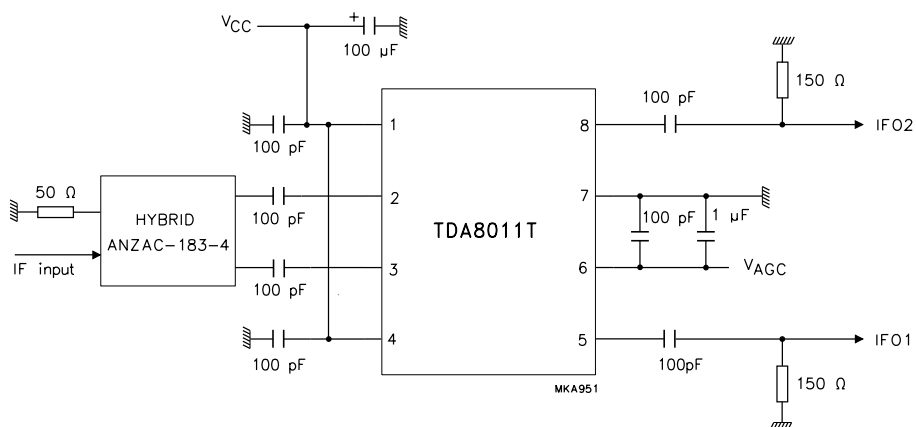

Fig.6 Application circuit.
$V_{CC} = 5\text{ V}$; $f_i = 70, 480\text{ and }610\text{ MHz}$; $T_{amb} = 25\text{ °C}$; measured in application circuit of Fig.6; unless otherwise specified.
3. The unmatched noise figure (F) is measured at $f_i = 480$ MHz in the application circuit (see Fig.6). With the hybrid coupler used, the equivalent source impedance is equal to 100 Ω.